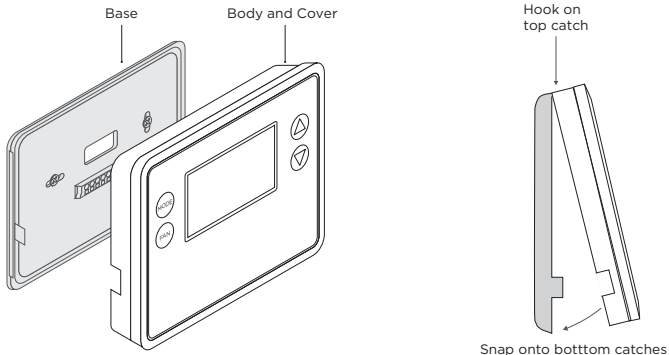

Figure 9: Base and Cover Installation
2. Snap the body and cover onto the base. Refer to Figure 9.